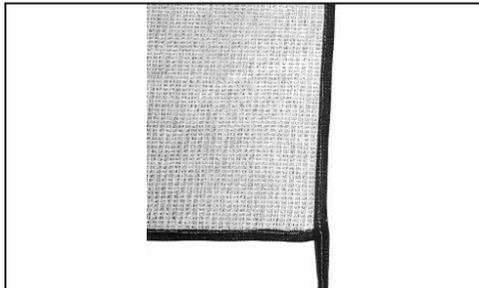

FIG. 16
2. Sew over trimmed end leaving a 2-3" tail at the start (Figure 16).